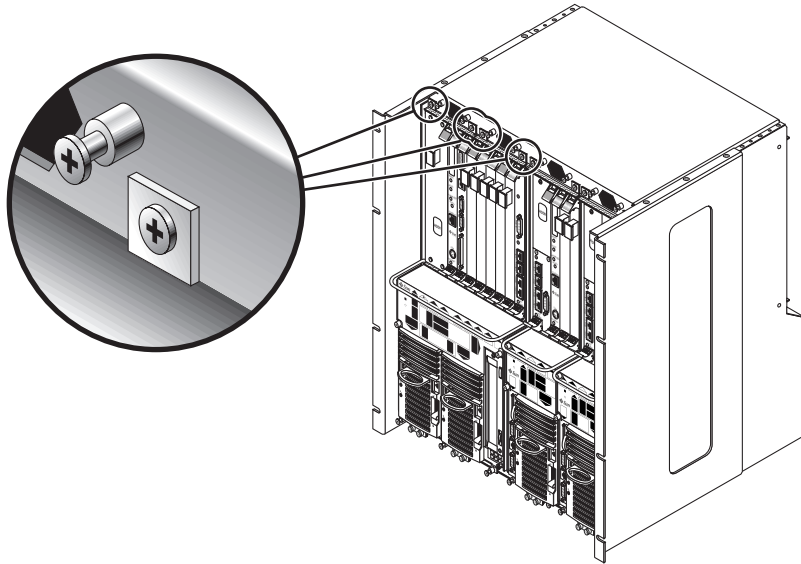

FIGURE 4-4 Tightening the Screws at the Top of a Netra CT 810 Server
- If you are installing a Netra CT 810 server, tighten the *four* black captives screws at the top of the server (FIGURE 4-4).